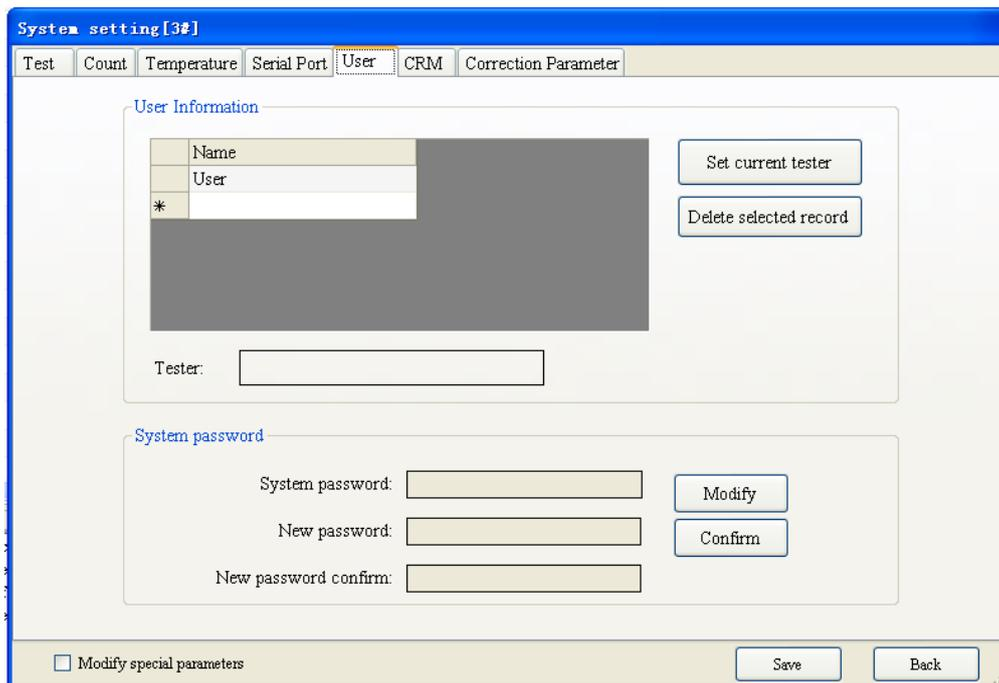

Fig. 4-3-6
4. User: Click on “User” at “System Setting” window, window shown as Fig. 4-3-6 will popup.